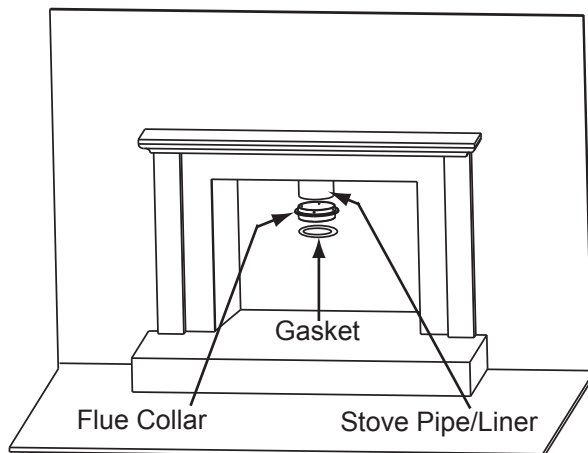

Figure 40.1
1. There are 4 already drilled holes in the flue collar 90 degrees apart. Attach the flue collar to the stove pipe/liner. If the seal is questionable use high temperature sealant such as stove mastic (**Figure 40.1**).